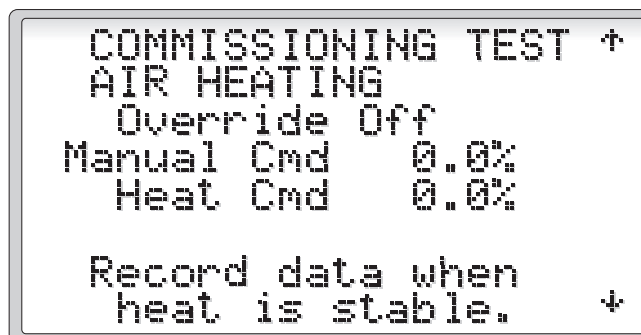

Figure 33
2.3.3.2.2 Commissioning Tests (Figure 33)
Selecting the COMMISSIONING TESTS from the Commissioning Menu displays the COMMISSIONING TEST screens (Figure 33). Every condenser used by the dehumidifier will have a separate screen. Select the condenser to test and override it by setting the Override to 'On'. Confirm that the superheat is stable before starting the test. Select 'Start Test' by pressing the **UP** key with the cursor over the Start Test text. After 5 minutes, the average refrigeration data can be shown by pressing the **Prg** key. The average superheat as well as the high and low readings of superheat during this test are found by pressing the **UP** and **DOWN** key. Record this data on the startup form.
Pressing the **DOWN** key will cycle through the available condenser to test. The last screen shown will be the Air Heating screen, Figure 33. This screen allows the air heat to be forced 'On' and a manual percentage to be forced. This allows for stable conditions for the amperage to be recorded on the startup form.